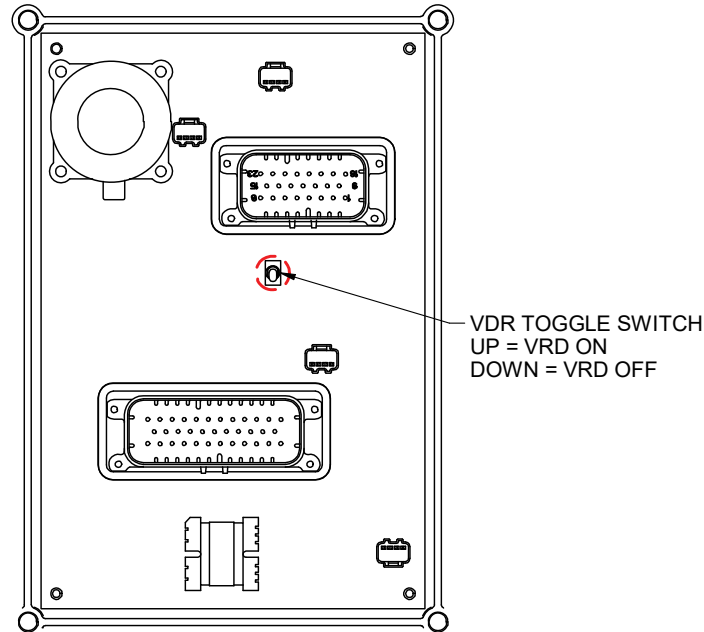

Figure 2 :
4. Locate VRD switch (as marked in Figure 2 : on page A-6) on the PC control board.